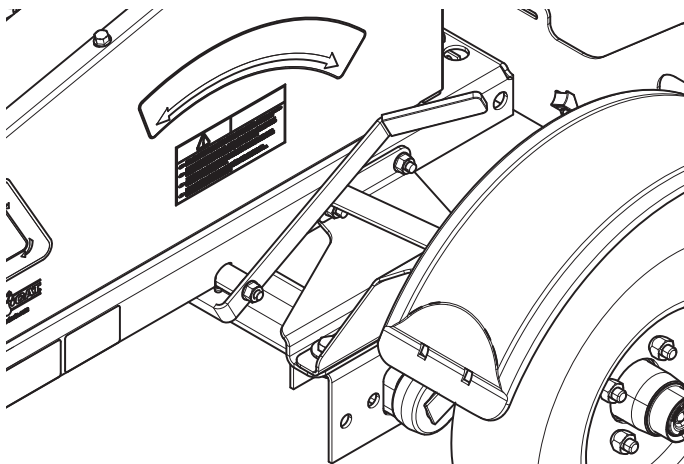

Figure 5.8, Engagement Handle in CHIPPING Position
- a. Move the engagement lever to the CHIPPING position (see Figure 5.8).
5. Place the chipper engagement lever in the CHIPPING position (see Figure 5.8).
14. Place the chipper engagement lever in the CHIPPING position (see Figure 5.8).
5. Place the engagement lever in the CHIPPING position (see Figure 5.8)